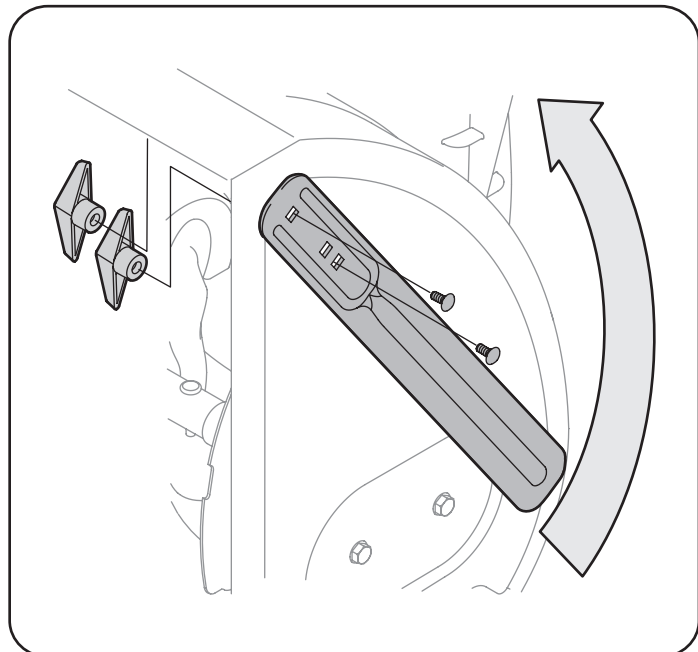

Figure 15
2. Turn the drift cutters around and position them as shown in Figure 15 to the outside of the auger housing.